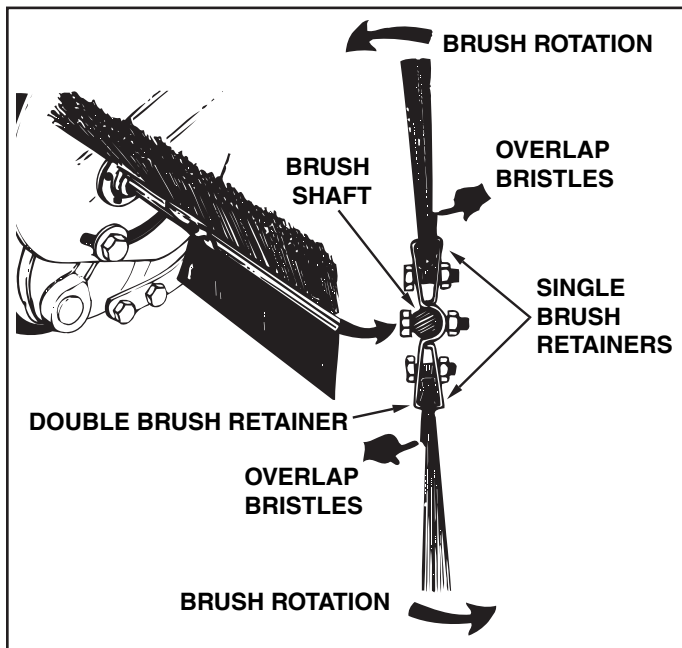

FIGURE 26
- Loosen the hex bolts and lock nuts on two single brush retainers which clamp one brush to the double brush retainers. **Do Not loosen** or remove the bolts which fasten the double brush retainers to the brush shaft. See figure 26.
- Slide the brush out of the retainers, noting on which side of the brush the bristles overlap. See figure 26.
- Install new brush, making sure the bristles overlap on the same side of the brush as before. See figure 26.